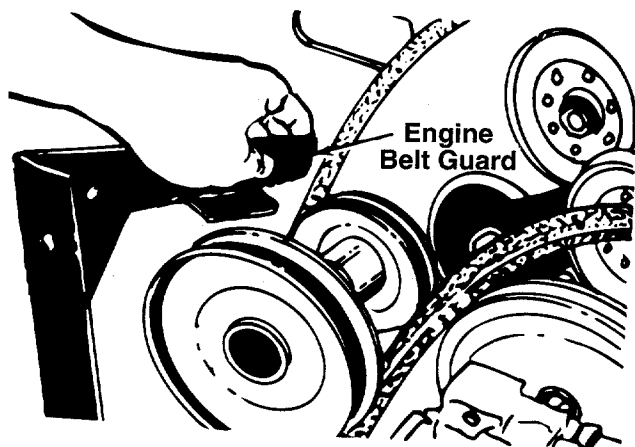

FIGURE 33.
7. Remove two hex bolts, nuts and lock washers from the engine pulley belt guard at rider frame to allow the engine pulley belt guard to drop down out of the way. See figure 33.